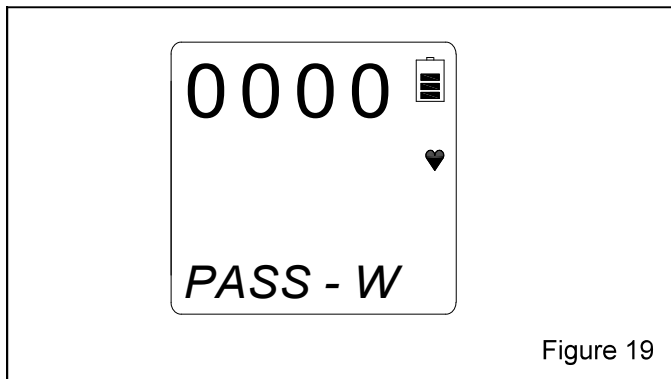

Figure 19
4.4.2.3 Release both buttons after the second beep. The LCD screen should be as shown in Figure 19 with the digit on the left flashing.